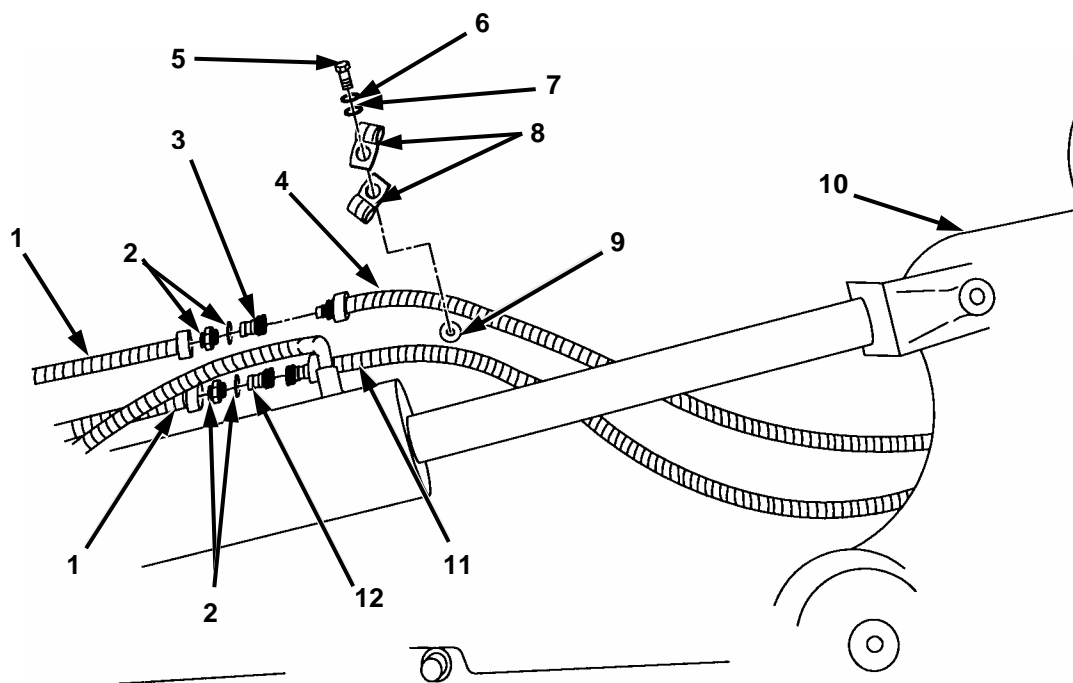

Figure 2-46. Clamp Location.
- e. Install adapter and o-ring 4-6F50X-S (Figure 2-46, 2) and quick-disconnect coupler H2-62-T6 (3) to blade folder hose (1).